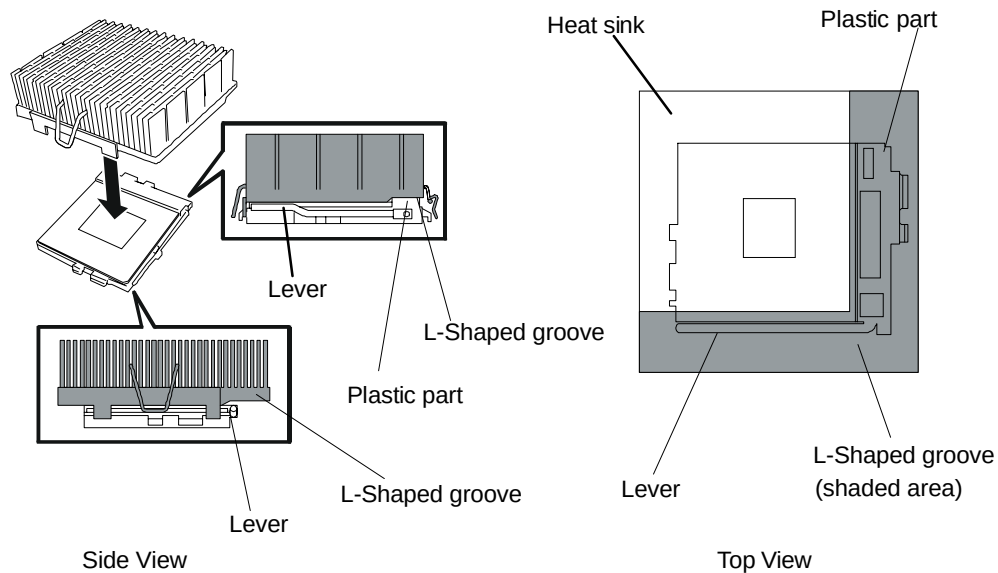

Figure 8. Positioning the Heat Sink Clip
9. The bottom of the heat sink is not completely flat, and instead has an L-shaped groove along two sides of the bottom. Position the heat sink over the processor so that the long side of the groove covers the rear plastic edge of the socket and the adjacent side of the groove covers the socket lever. See Figure 8. Gently lower the heat sink onto the processor, being careful not to move the heat sink from side to side.